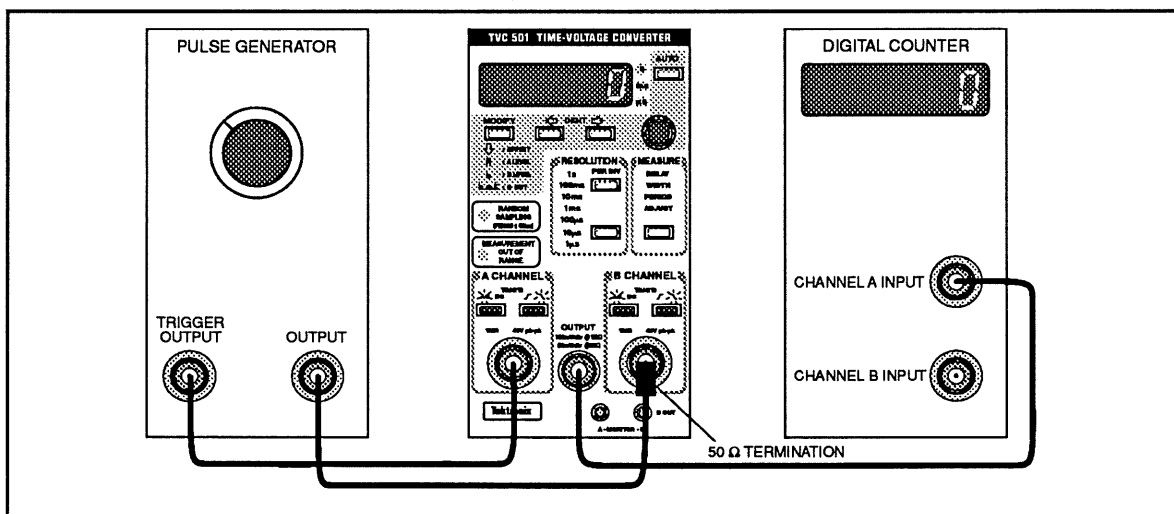

Figure 2-4. Channel B Minimum Pulse Width Test.
13. Move the Pulse Generator output connection from the TVC 501 **A CHANNEL** input to the **B CHANNEL** input as shown in Figure 2-4.